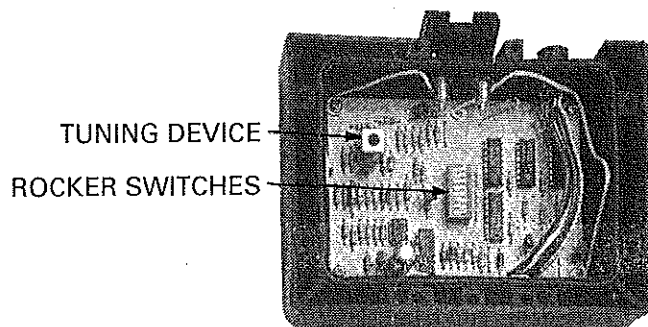

Fig. 11
3. Remove the back cover plate and locate the rectangular code switch assembly containing 8 small rocker switches. From the end marked with ON/OFF, the switches are identified as follows: A, B, 1-6 see Fig. 11 & 12. **DO NOT CHANGE THE SETTINGS OF SWITCHES #A & #B.** With a small probe such as a ball point pen or small screwdriver, change the settings of the remaining six switches (1-6) into the **same** ON/OFF combination as the transmitter, see step 2 of "The Transmitter" above.
2. Remove the back plate of the receiver module and insert the proper plastic alignment tool (a plastic screwdriver or hex rod known as color TV tuning tool and sold by TV repair shops), carefully insert into the tuning device on the printed circuit board see Fig. 11.